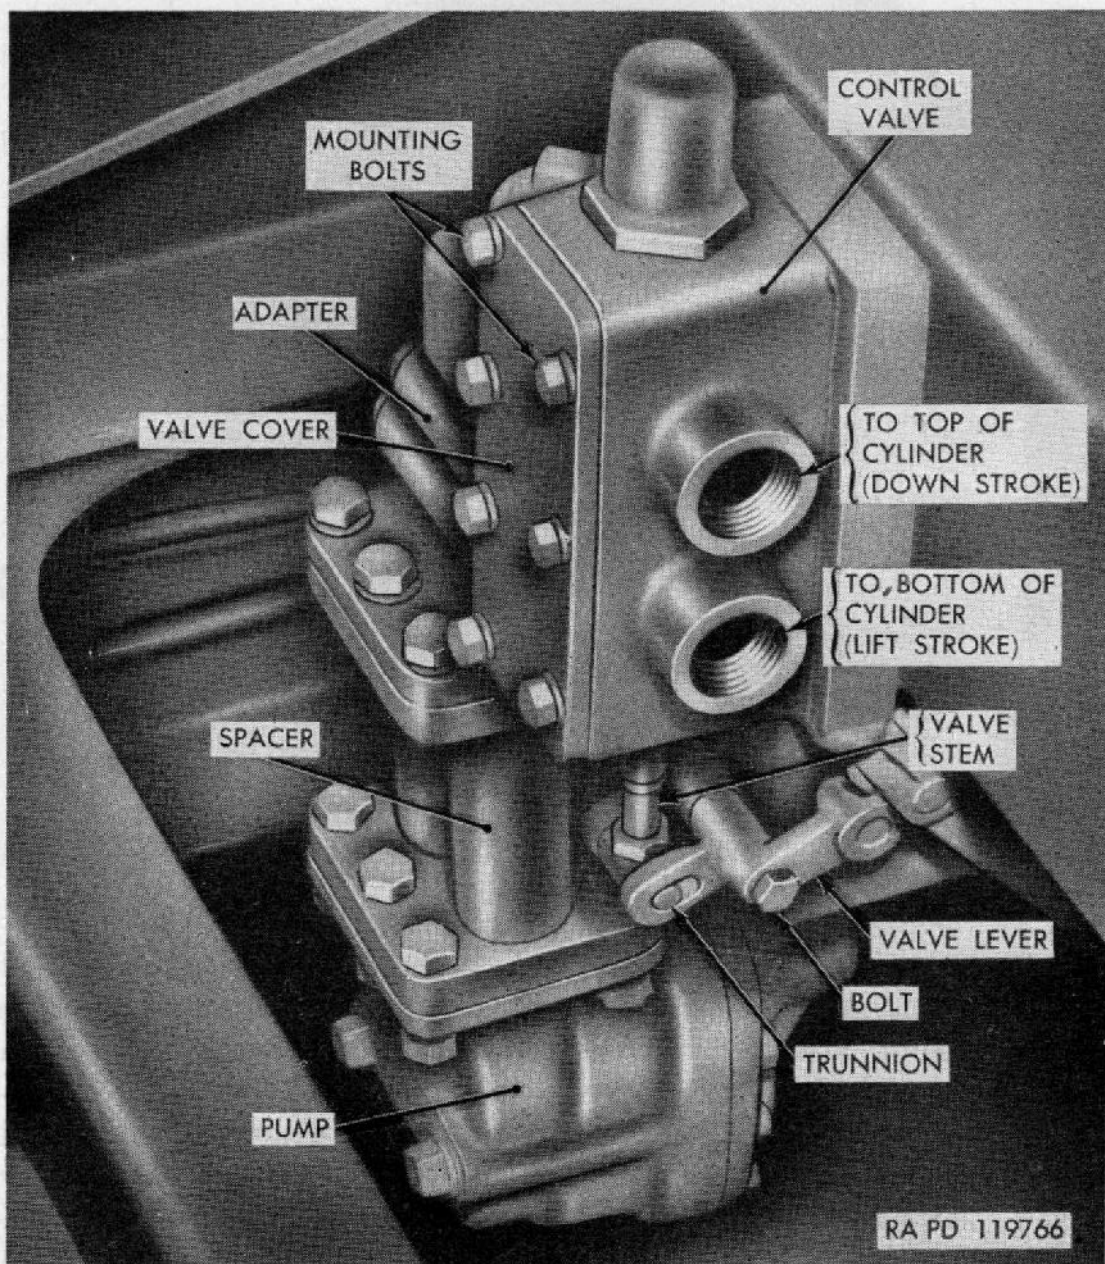
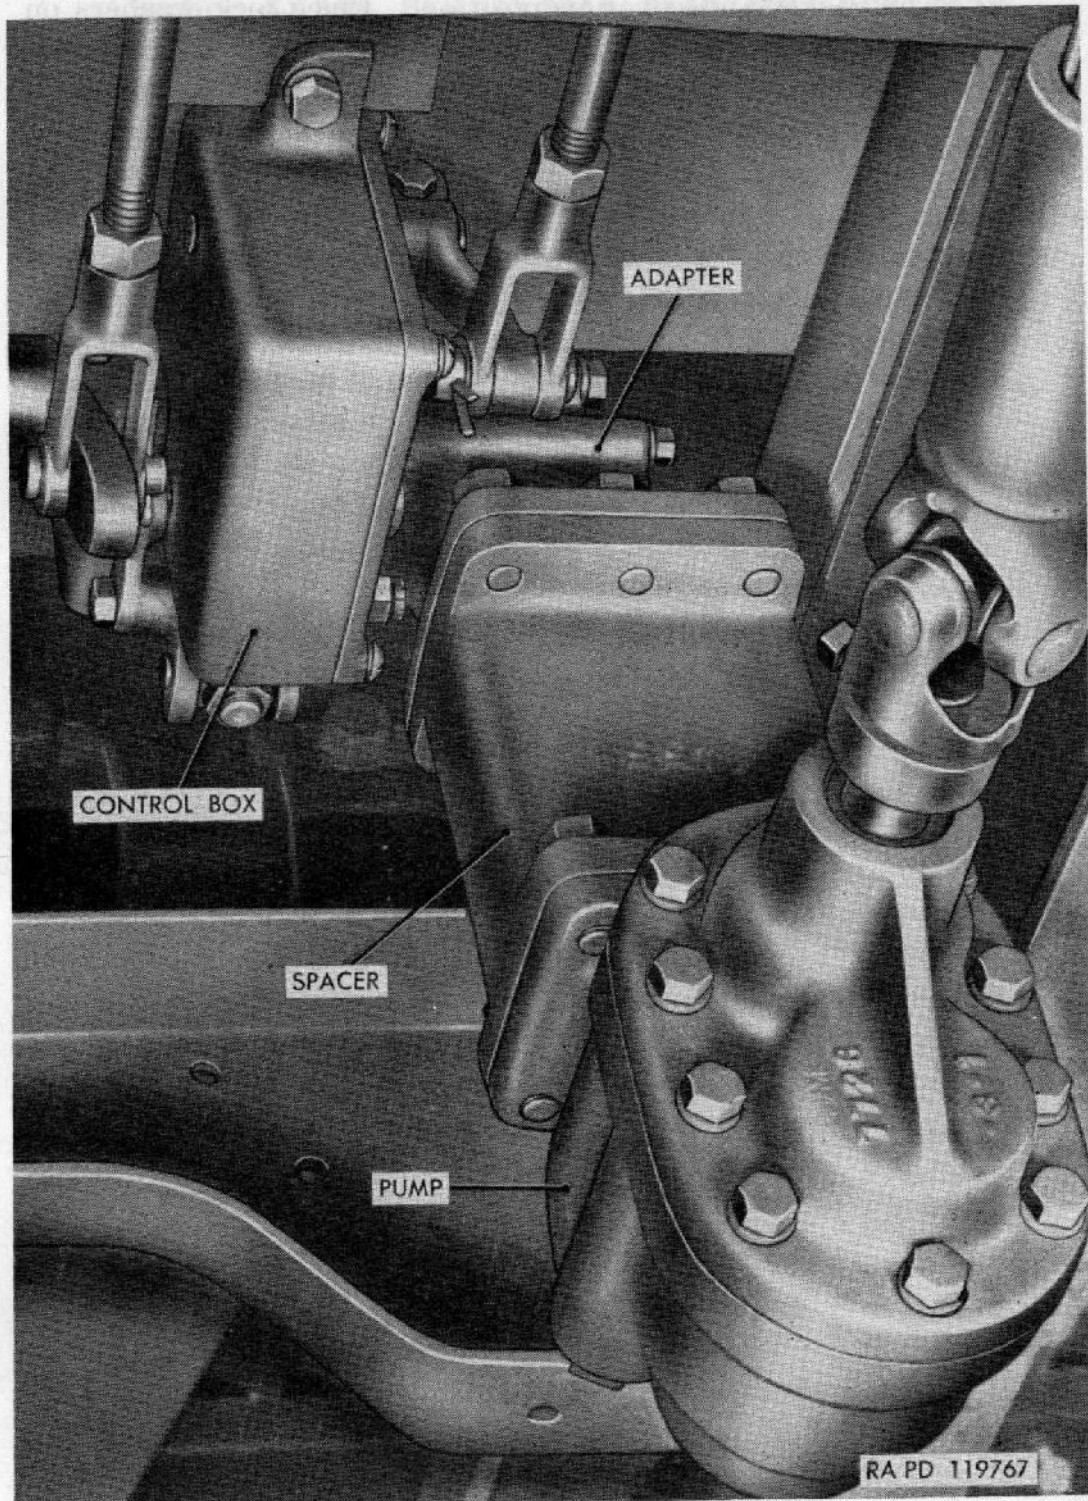
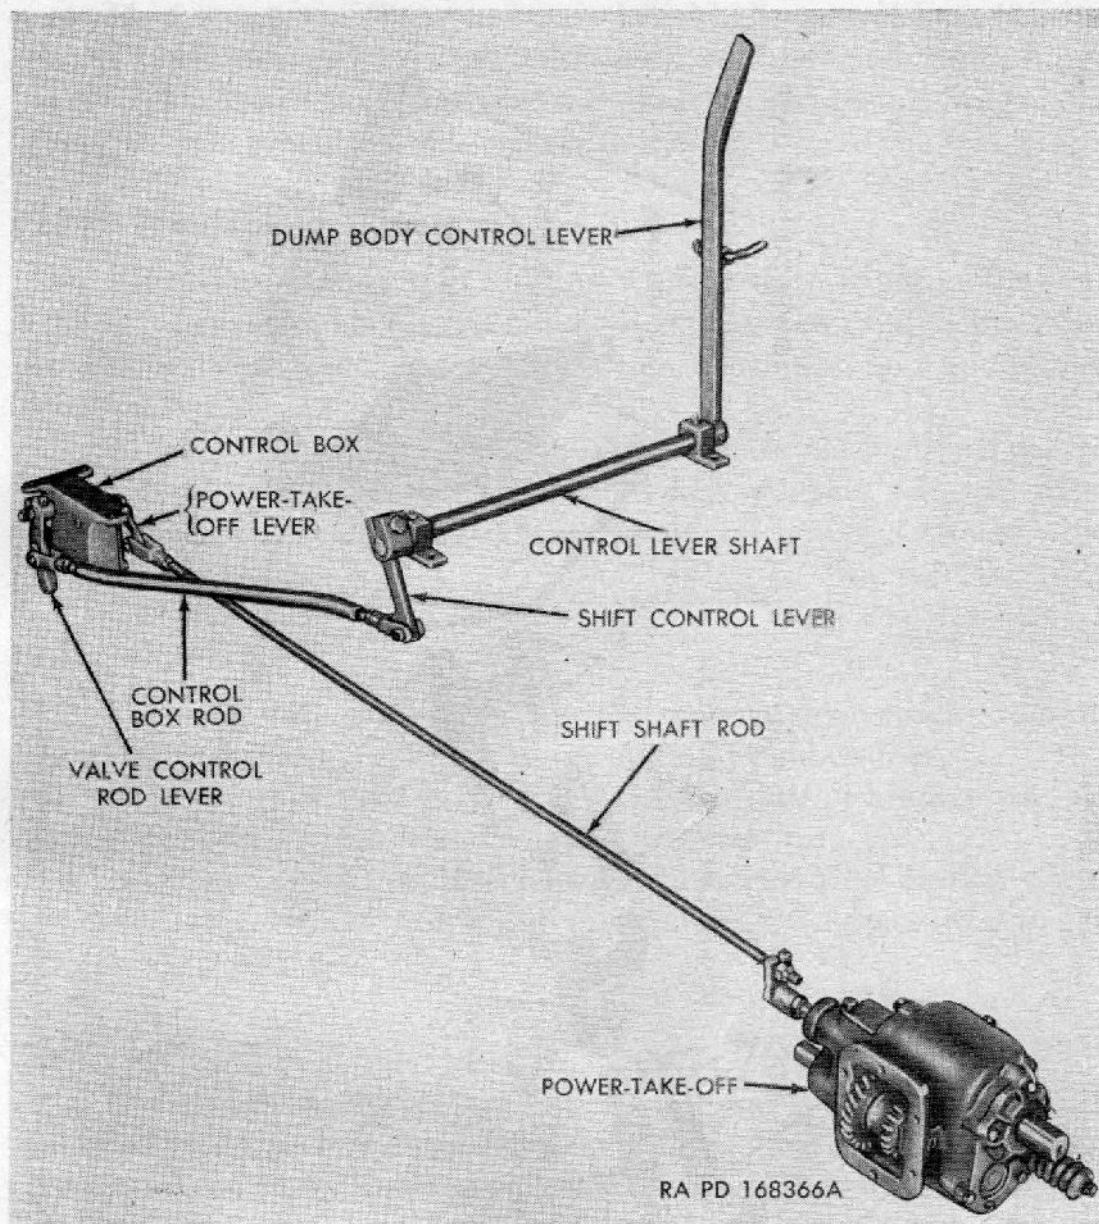
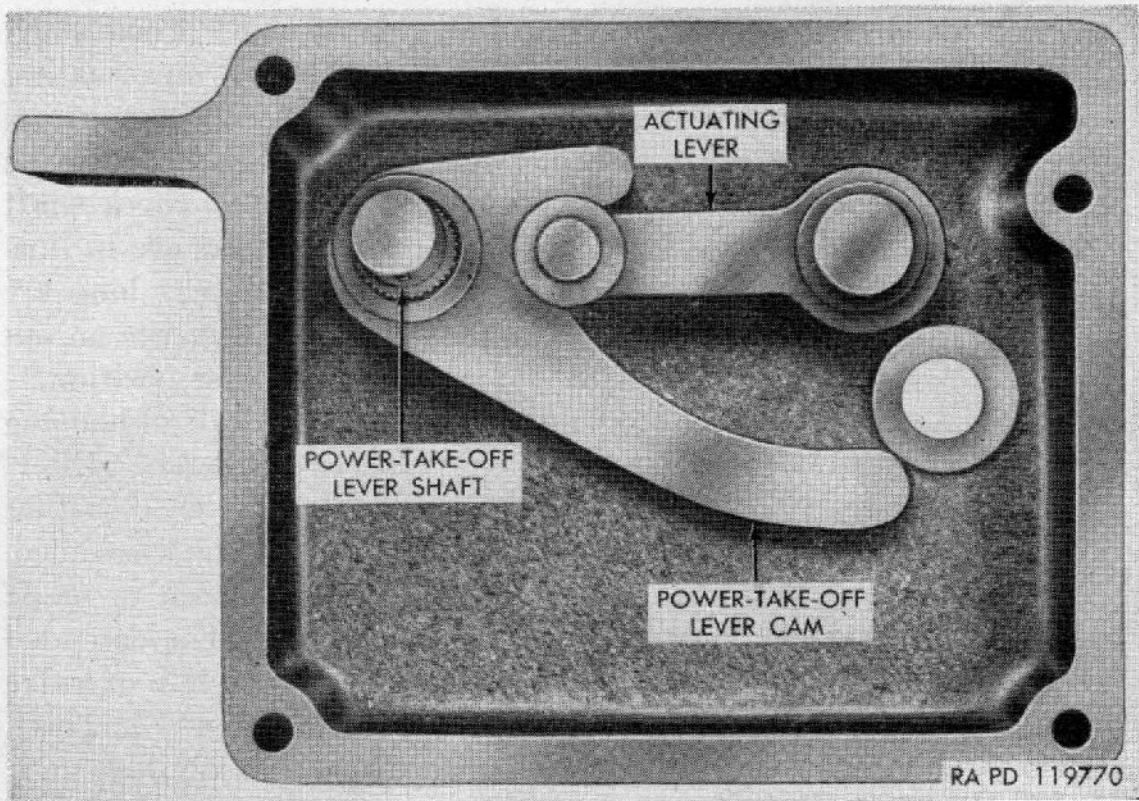

Figure 159. Pump and valve mechanism as mounted in subframe.
Figure 160. Pump and control box viewed from below.
Figure 161. Arrangement of control linkage.
Figure 163. First assembly—control box.
(2) *Control valve and pump* (fig. 159). A spool type control valve is mounted on rear side of front cross member. This valve has a central piston which reverses flow of fluid to hydraulic cylinder by a vertical movement of $1\frac{1}{4}$ inches. In its central position, cylinder is cut off and body held in position. Movement of valve spool above center lowers body, movement below center raises it. An adapter is mounted on side of valve. This adapter has two separate passages for hydraulic liquid. Passage connected to upper intake port of valve has a nonreturn valve at the top. This makes holding of dump body possible when control lever in cab is in
- (3) *Control box.* The control valve is operated by a control box (fig. 160) mounted on under side of front cross member of subframe. A control box rod extends from valve-control-rod lever (fig. 162) to shift control lever extending through floor of cab (fig. 161). Movement of handle in cab (fig. 21)
to (B) throws power-take-off lever cam downward and the attached power-take-off lever (fig. 162) will shift power-take-off, through shift shaft rod (fig. 161) to engagement. Contour of this cam is such that any further movement of valve-control-rod lever will not affect position of cam (fig. 163). Valve lever cam (fig. 162) is also engaged by the actuating lever (fig. 163). Contour of this cam is such that the valve lever (fig. 159) is not moved until driver's control lever passes its mid-position (C, of fig. 21). Further movement will engage lower contour of cam and lift valve lever upward. Valve lever is attached to extended valve spool by a trunnion (fig. 159).
b. REPLACEMENT OF PUMP AND CONTROL VALVE GROUP (figs. 159 and 160).
- (1) *Removal.* Disconnect shift shaft rod from power-take-off lever, and valve control rod lever from control box rod (fig. 161). Remove safety nut from valve lever bolt holding halves of valve lever (fig. 16) together and separate lever until trunnion on valve spool can be freed. Remove three cap screws from lugs at upper portion of control box and remove box.
- (2) *Installation.* Place control box in position and attach to subframe with three cap screws and lock washers. With control lever in cab in "OFF" position and valve-control-rod lever pulled forward, check, and adjust linkage to both levers (fig. 161). Insert clevis pins and secure with cotter pins. Position valve spool trunnion, insert valve lever bolt and tighten safety nut.
- (a) Assemble power-take-off-lever cam and shaft. Long end of shaft must extend from hub side of cam. Place short end of shaft in bore in housing. Install rollers on actuating lever and insert long end of shaft in bearing in housing. If cam and shaft were not marked, arrange them so the three centers are in line as in figure 163. To check shaft position, note position of keyway when centers are in line. Then move actuating lever until roller contacts long arc of cam. Keyway should then be the same distance on opposite side from vertical center line as in first position.